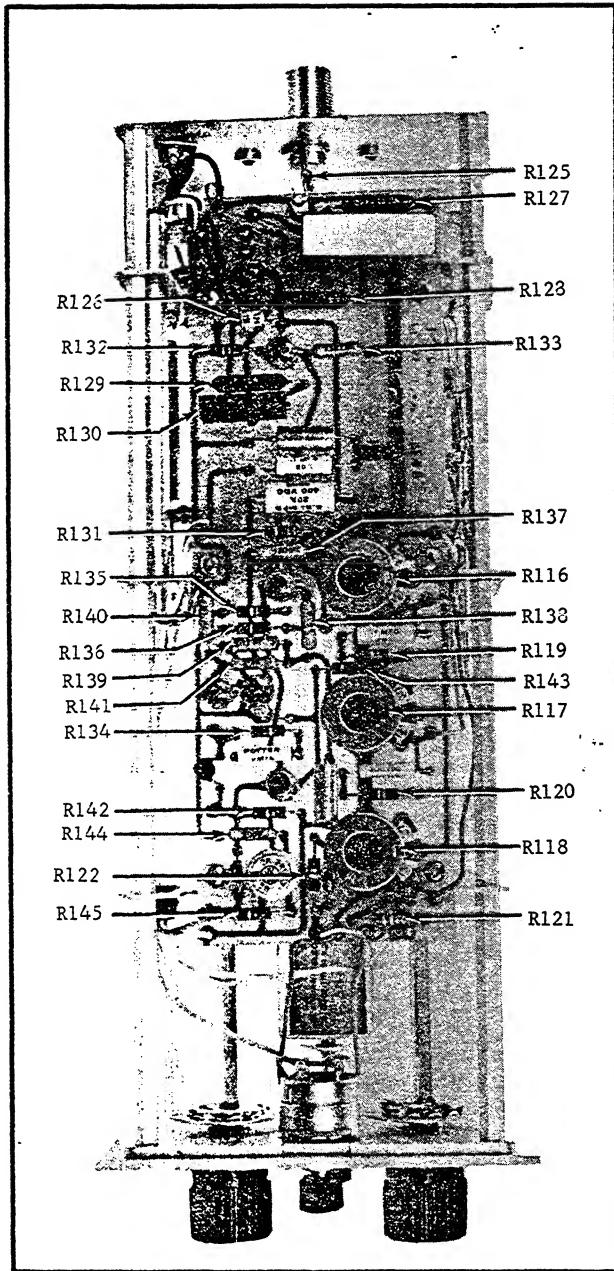
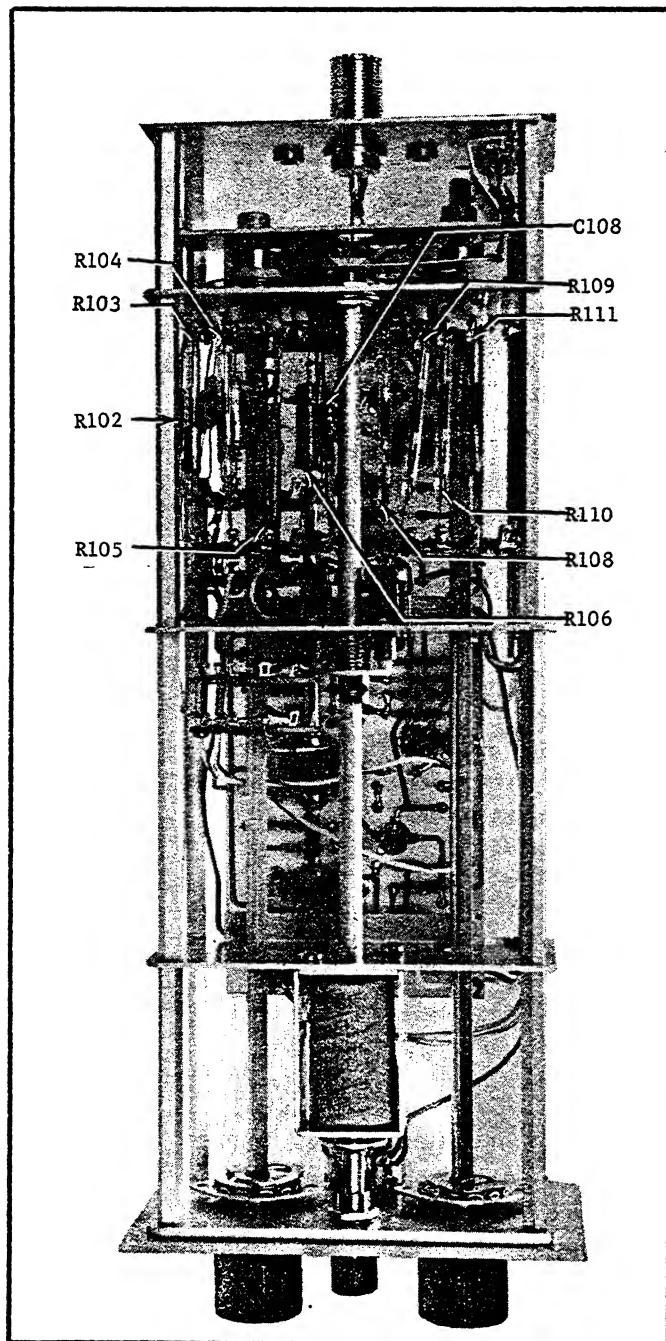

FIGURE 22. Resistors of Model 4170 Input Head.
FIGURE 24. Components on Model 4170
3. Adjust potentiometer R118 (Figure 22) for minimum rise time without overshoot. Typical traces are shown in Figure 17. Observe the trace for the  $10^{-11}$  and  $10^{-12}$  range. Adjust potentiometers R117 and R116, respectively, if necessary. The  $10^{-9}$  ampere range is adjusted for optimum rise time by sliding the brass band around the  $10^9$  high-megohm resistor, R111 (Figure 24) along the length of the unit.